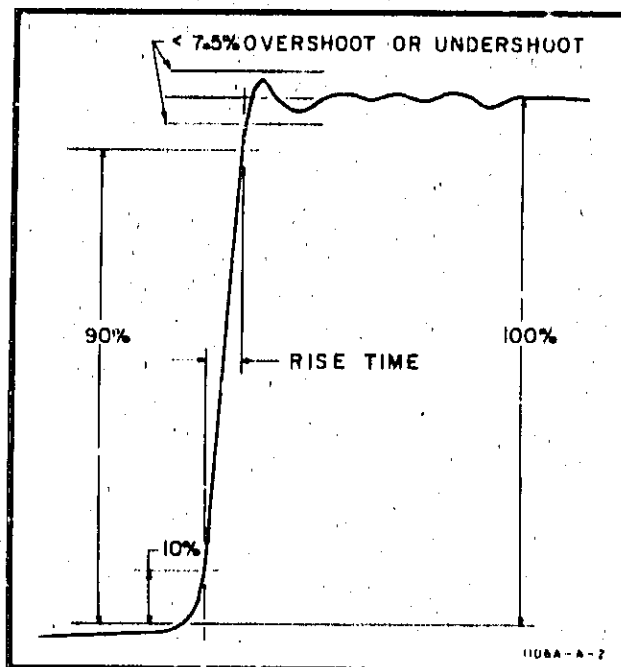

Figure 7. Pulse Characteristic
c. On sampling time base and vertical amplifier, set the expanded time/div for a sweep speed of 0.01 ns/cm and adjust the expanded position to observe the rising edge of the pulse. Readjust the Model 1105A SENSITIVITY control for best waveform and minimum jitter. See Figure 7.